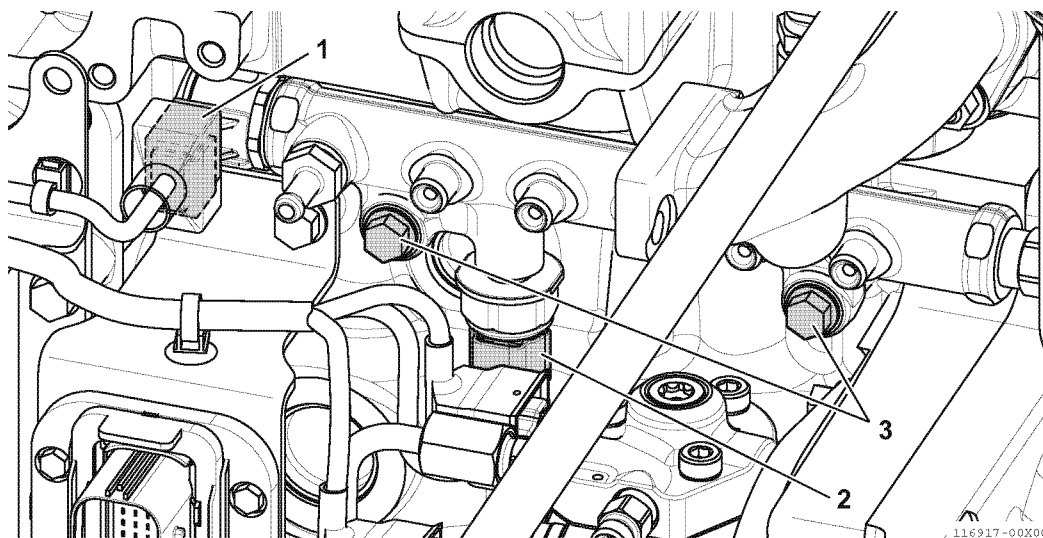

Fig.50-12
- 1 - Remove the pressure reduction valve harness coupler (1, Fig.50-12), then remove the rail pressure sensor harness coupler (2, Fig.50-12).
- 2 - Remove the two bolts (3, Fig.50-12) which mount the common rail, then remove the rail body.
- 2 - Install the pressure reduction valve harness coupler (1, Fig.50-12) and the rail pressure sensor harness coupler (2, Fig.50-12).